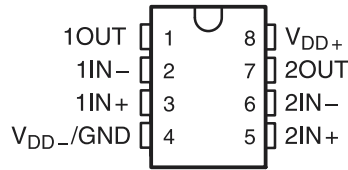

Figure 4-1. Pin Diagram (SOIC (D) 8) Package
4.1 SOIC (D) 8 Package
Figure 4-1 shows the TLC2272-Q1 pin diagram for the SOIC (D) 8 package. For a detailed description of the device pins please refer to the *Pin Configuration and Functions* section in the TLC2272-Q1 data sheet.